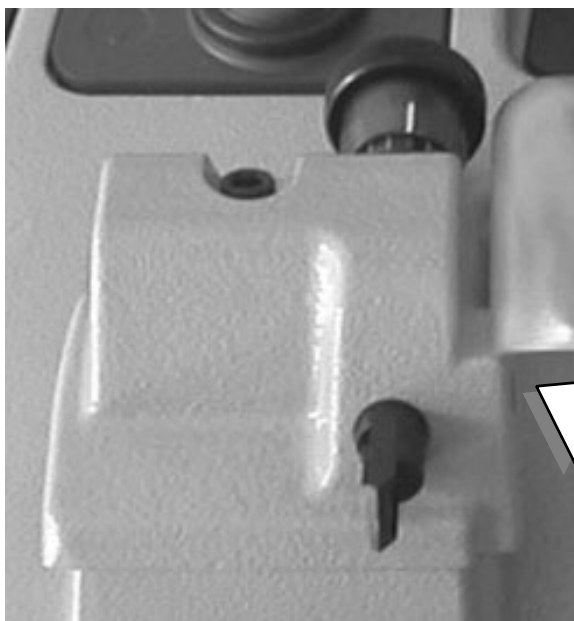

Figure 18: How to replace the tracer point
1. To adjust the belt tension, **tighten** or **loosen** the nut (Y) located on the side of the machine (see figure 18), by means of the 3 mm hexagon spanner;
1. To replace the belts **loosen the nut** (Y) located on the side of the machine (see figure 18), by means of the 3 mm hexagon spanner;